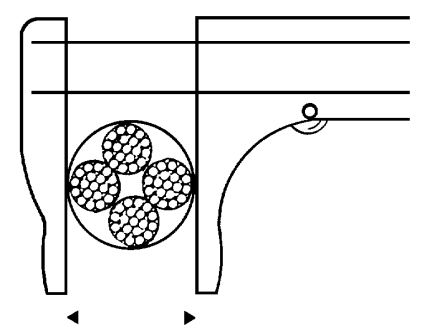

FIGURE 15
- The thickness of the rope is reduced by 10% in diameter from the original value due to abrasion. See Figure 15.